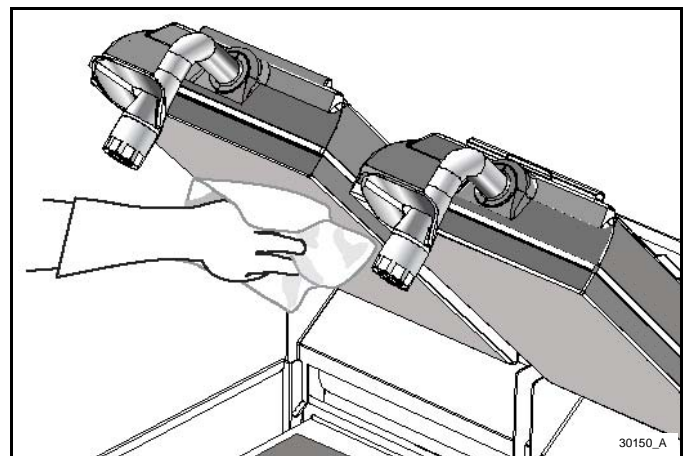

Figure-104
10. Use the sanitizer-soaked grill cloth to wipe clean the exposed surfaces of the upper release sheets, including the sides. Repeat the cleaning for the lower release sheets. See Figure-104.